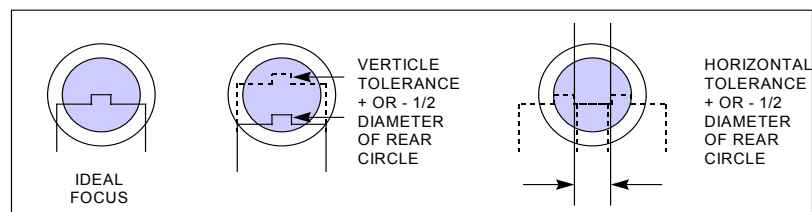

Figure 3-14
- f. Turn each focus screw **COUNTER- CLOCKWISE** nine (9) complete revolutions.
- g. Install the focus prism over one of the focus dots on the lens. You should observe the focus fixture slightly below the sighting marks if not right on. See Figure 3-14.
- i. Observe the focus fixture. Is it right or left or low? If so, turn one of the two focus screws not aligned with the sighting marks until the focus fixture is centered. See Figure 3-14.
- j. If the focus fixture is above the sighting marks, turn each focus screw two (2) or three (3) more complete turns until it is either below it or right on.